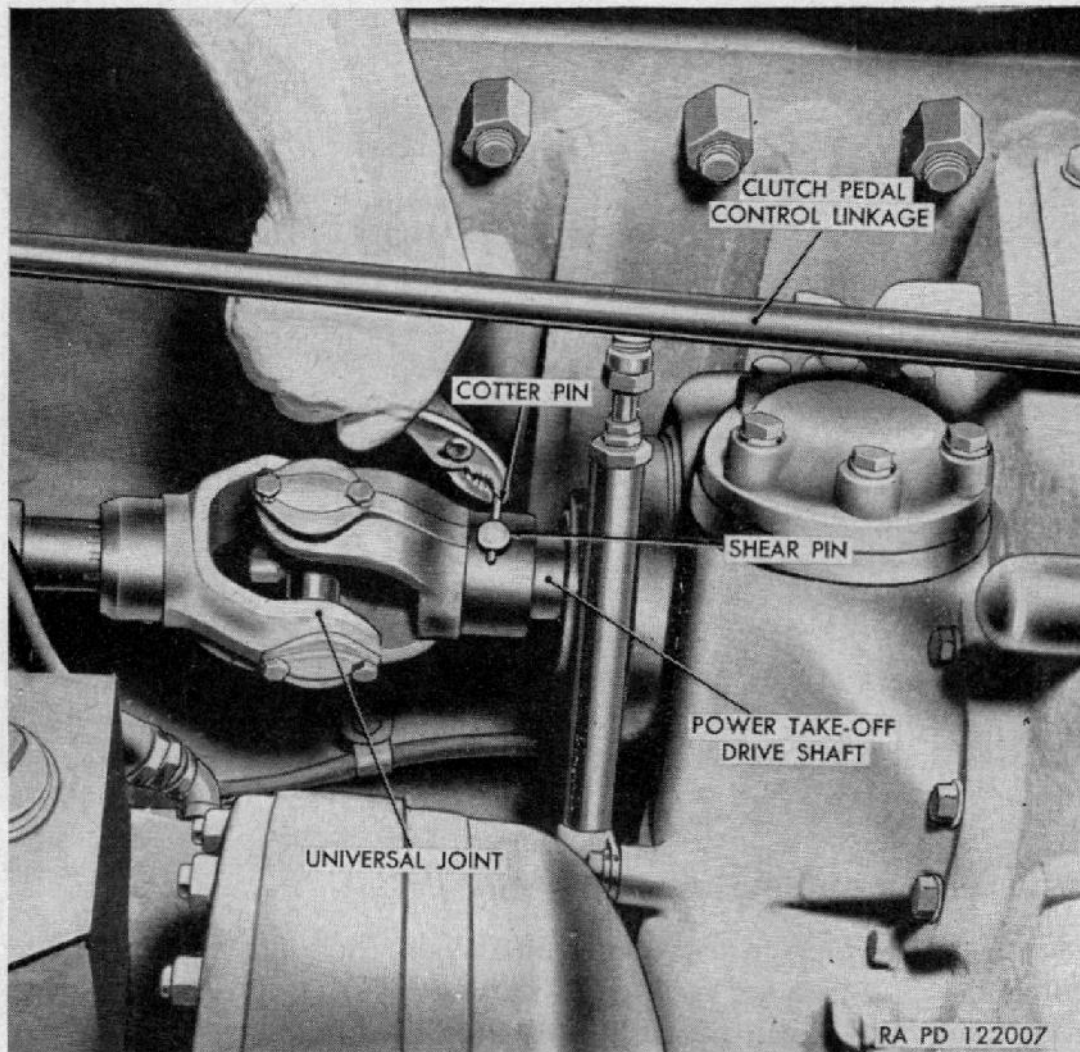

Figure 168. Winch shear pin replacement.
a. Removal. Open rear crew compartment floor plate and remove cotter pin from shear pin (fig. 168). Using a hammer and a pin